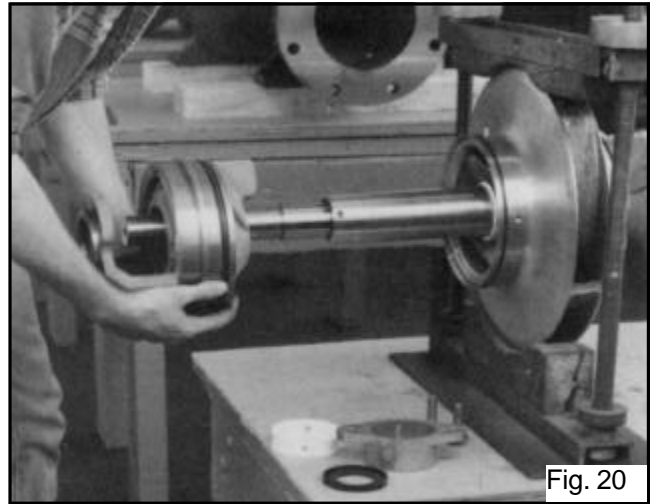

Fig. 20
- Slide both stuffing boxes (3-073-9) off of the shaft, working deflector rings (3-136-9) off the shaft at the same time. (See Fig. 20.)